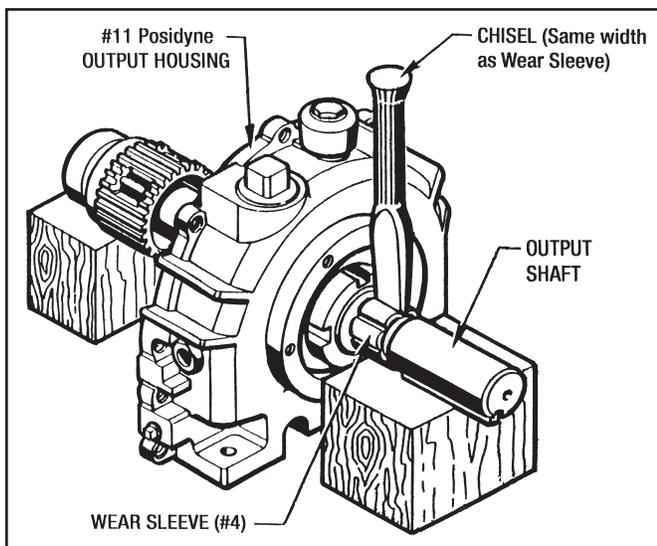

Figure 7.7 - Wear Sleeve Removal
2. Remove (6) Screws (#63) and remove the Bearing Retainer (#7) taking care not to damage the lip of the Oil Seal (#31). Also check to see if there is a Bearing Shim (#378). If there is remove it from the bearing bore.
5. Remove the Wear Sleeve (#4) as shown in Figure 7.7 and described in **WEAR SLEEVE REMOVAL PROCEDURE - Section 7-14.**
With a chisel, the same width as the Wear Sleeve, make about 5 or 6 notches in the ring parallel to the Output Shaft. It can now be removed from the Output Shaft by hand. (See Figure 7.7)